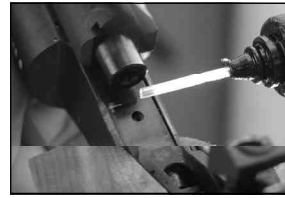
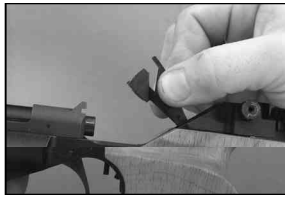

Figure 21
Figure 22
1. To lubricate the air compression chamber and air compression seal, follow the Cocking Instructions and cock the air pistol. Put a few drops of special light oil into the vent hole that leads into the compression chamber. See **Figure 21**. Now cock and un-cock the pistol in several different angles so the oil spreads around the piston chamber. See **Figures 22, 23 and 24**. Do not over oil (no more than 3 or 4 drops on each lubrication). The air pistol chamber should be oiled every 500 pellets.